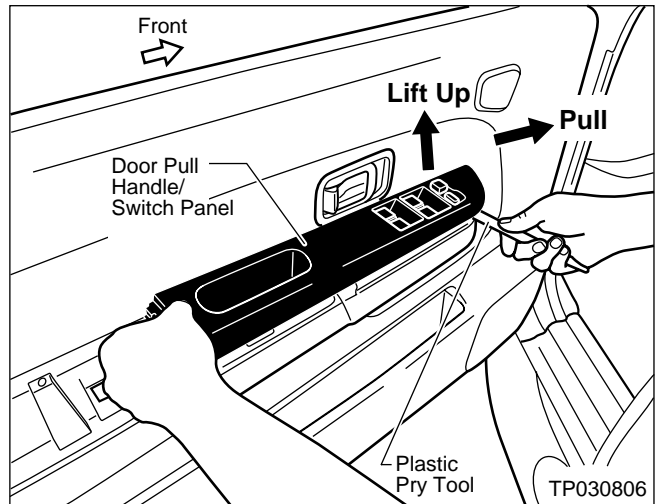

Figure 27
5. Use a Plastic Pry Tool to carefully lift UP the Door Pull Handle/Switch Panel to release the securing clips. Then, lift UP and PULL forward to remove the Door Pull Handle/Switch Panel (see Figure 27).